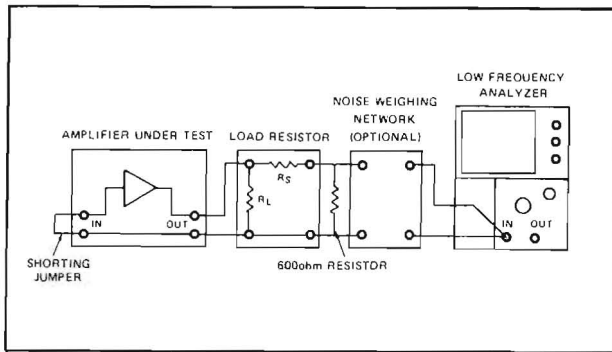
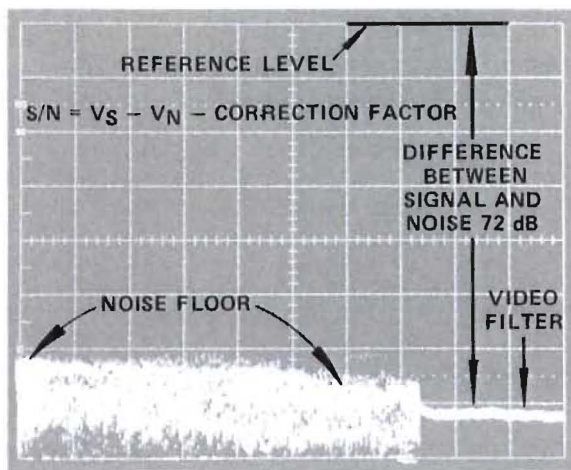

Figure 35 Equipment Connections to Measure S/N
Figure 36 Measuring the Noise Floor
1. Set up the equipment as shown in Figure 35. Apply a 1000 Hz tone from the audio signal generator to the amplifier input. Adjust the signal level so the amplifier is driven at rated power output (volume control maximum) as indicated by the 2 dB/DIV display of the spectrum analyzer.
3. Switch to the 10 dB/DIV display mode and note the amplitude of the 1000 Hz tone. This will be the **Signal Reference Level (VS)**.
4. Switch the 1000 Hz tone off, install a shorting jumper and observe the noise floor on the display. Use the analyzer VIDEO FILTER to average the noise so the **amplitude of the noise floor (VN)** can be measured as shown in Figure 36.